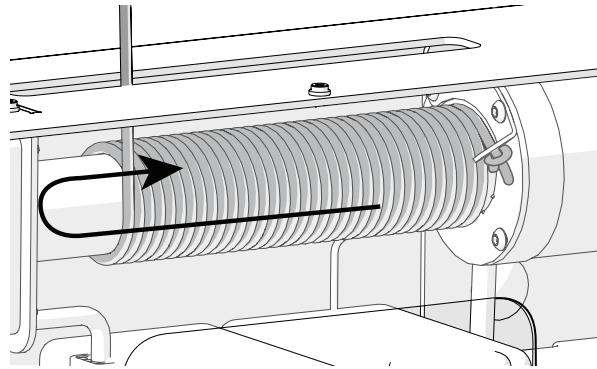

Fig. 16-1
- While holding tension on the cable, allow the cable to spool going from the right to the left and back as shown in Fig 16-1.